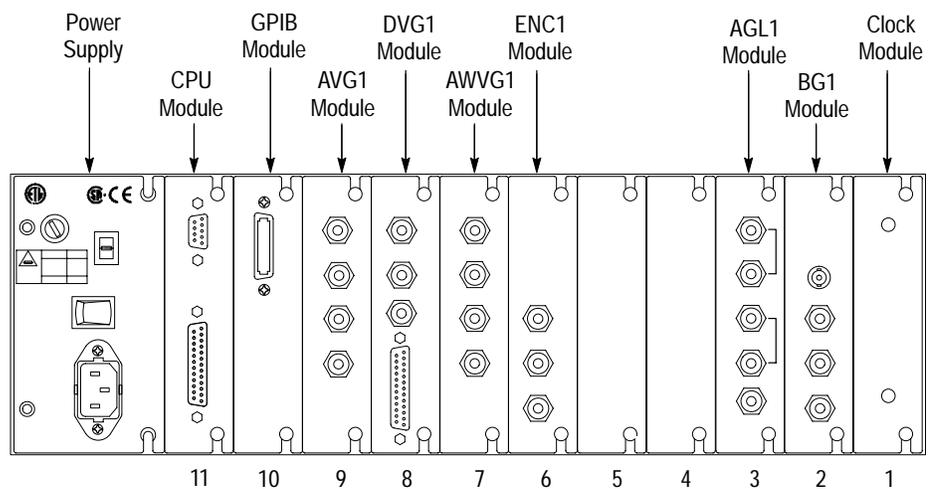

Figure C-1: TG 2000 Platform mainframe rear panel, showing slot numbering
3. Select the slot you will use to install the module. Table C-1 lists the slot restrictions. Figure C-1 shows a sample configuration with slot numbers.